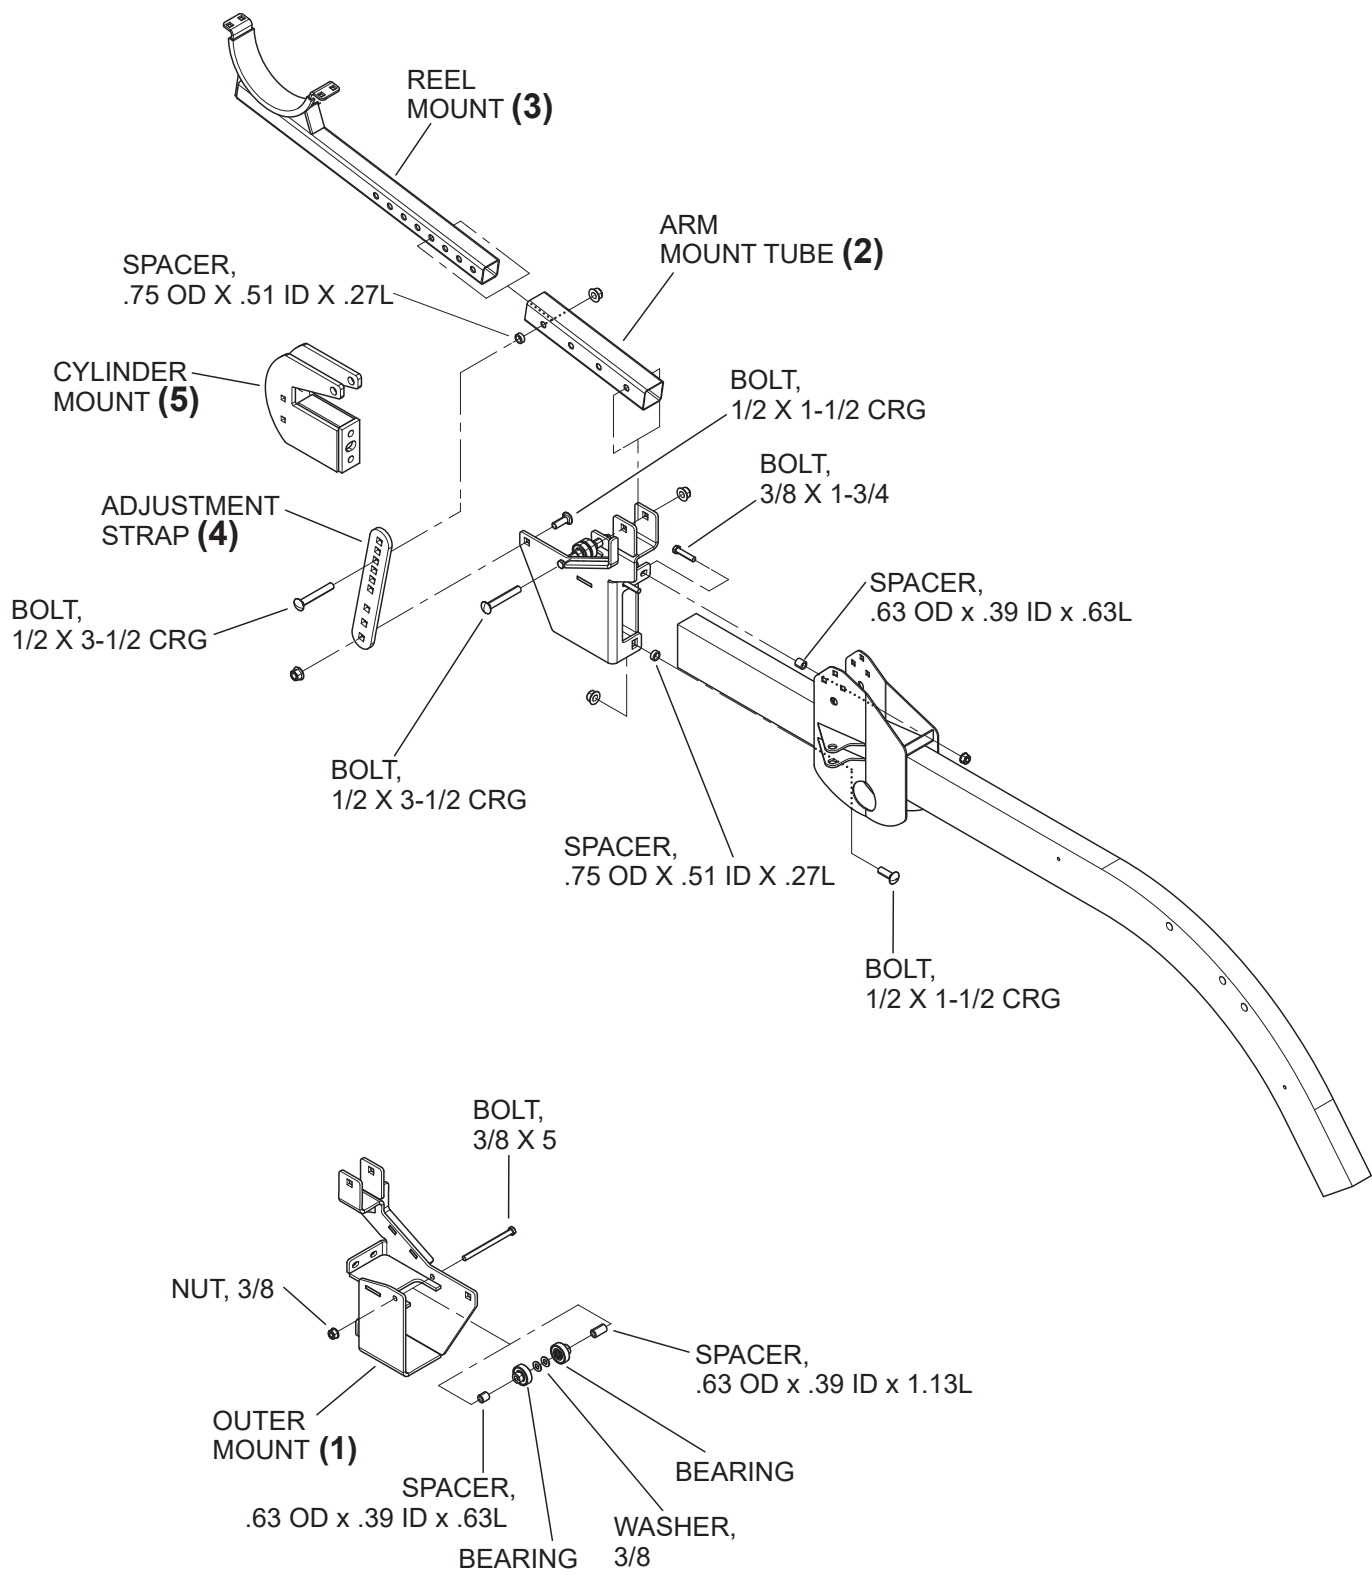

Figure 36: LH reel arm mount assembly (FD70 & CIH 2162 headers)
1. Assemble the bearings using the .63 OD x .39 ID x .63L and .63 OD x .39 ID x 1.13L spacers and washers, 3/8 x 5" bolt and nut to secure the bearings to the outer mount **(1)**. (Figure 36).
7. Using a 1/2" x 3 1/2" carriage bolt and nut, attach an end hole of the arm mount tube **(2)** to the clevis of the outer mount **(1)** (Figure 36).
9. Attach the adjustment strap **(4)** to the arm mount tube **(2)** and reel mount **(3)** with a 1/2" x 3-1/2" bolt, nut, and .75 OD x .51 ID x .27L spacer. (Figure 36)